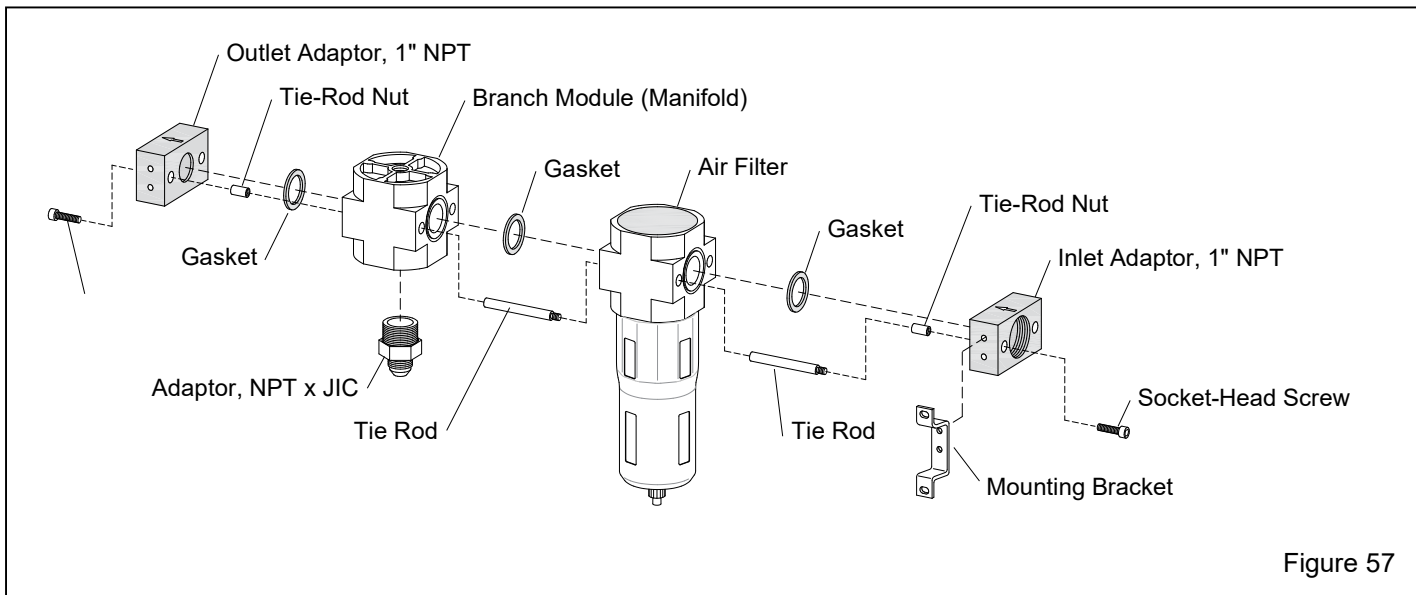

Figure 57
7.21 Servicing Pneumatic Inlet Assembly Figure 57